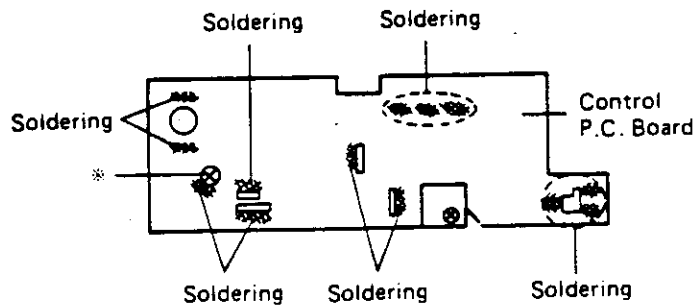

FIGURE 4-17. CONTROL PC BOARD REPLACEMENT
- a. Desolder 9 locations and one screw (marked \* ) (see Figure 4-17).